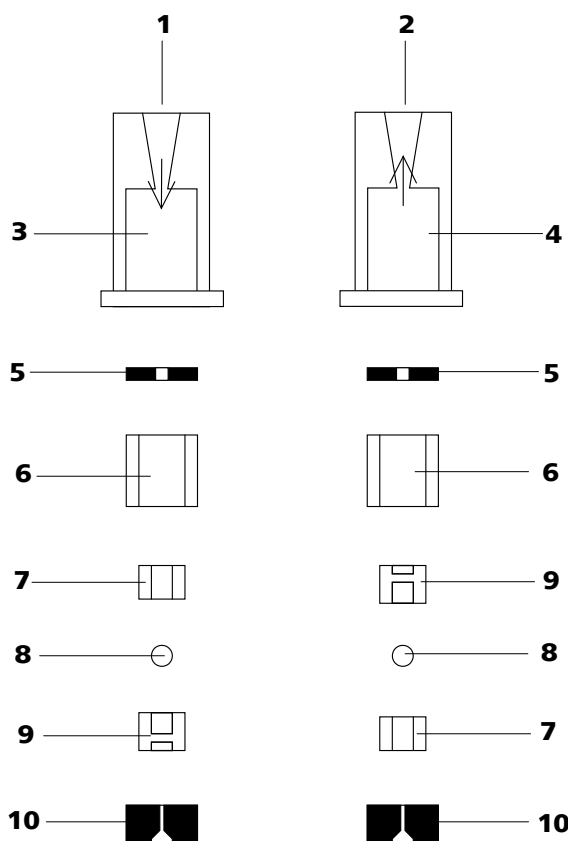

Figure 28 Components of the inlet valve and outlet valve
- The inlet valve and the outlet valve consist of the same, just differently arranged components (see Figure 28, page 54).
Reassemble valve components *according to figure 28, page 54*.
- Lay the other valve components above another in the correct sequence (*see Figure 28, page 54*).
If this is not the case, the valve has to be dismantled again and be reassembled correctly (see Figure 28, page 54).